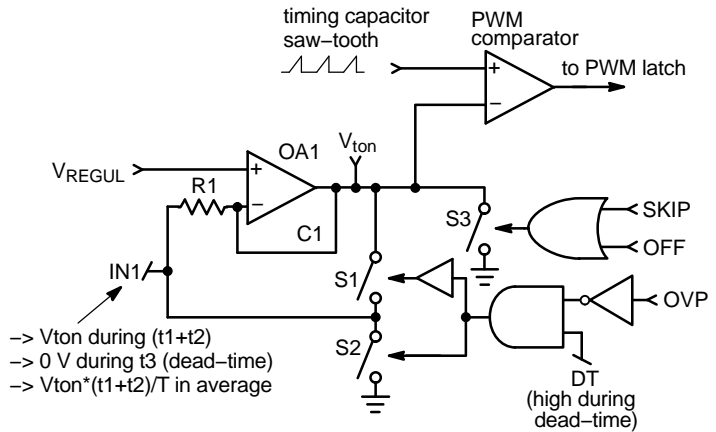

Figure 56.  $V_{TON}$  Processing Circuit
The output of the regulation block ( $V_{CONTROL}$ ) is linearly changed into a signal ( $V_{REGUL}$ ) varying between 0 and 1 V. ( $V_{REGUL}$ ) is the voltage that is injected into the PWM section to modulate the MOSFET duty-cycle. However, like the NCP1601, the NCP1605 inserts some circuitry that processes ( $V_{REGUL}$ ) to form the signal ( $V_{TON}$ ) that is used in the PWM section instead of ( $V_{REGUL}$ ) (see Figure 56). ( $V_{TON}$ ) is modulated in response to the dead-time sensed during the precedent current cycles, that is, for a proper shaping of the ac line current (refer to NCP1601 data sheet). This modulation leads to:
Similarly, the “ $V_{TON}$  processing circuit” is inhibited for a skip sequence not to over-dimension “ $V_{TON}$ ” in this case (refer to Figure 56).
**Remark:** Like in the NCP1601, the “ $V_{TON}$  processing circuit” is “informed” when there is an OVP condition, not to over-dimension  $V_{TON}$  in that conditions. Otherwise, an OVP sequence would be viewed as a dead-time phase by the circuit and  $V_{TON}$  would inappropriately increase to compensate it (refer to Figure 56).